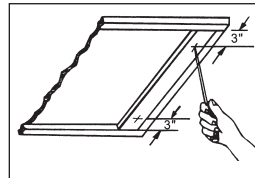

Fig.6
- Start a 1¼" long wood screw (purchased locally) about 3" from each end of the 1"x2" wood strips (Fig.6)